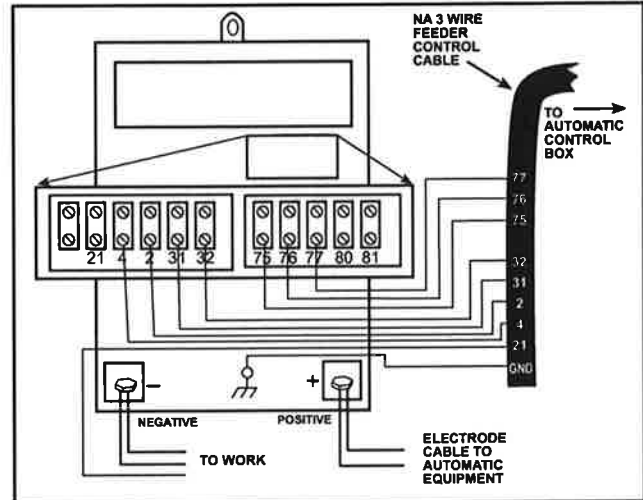

FIGURE C.5 - NA-3 WIRE FEEDER CONNECTION TO THE IDEALARC DC-600
3. Connect the wire feeder control cable leads to the IDEALARC DC-600 terminal strip as shown in Figure C.5.
NOTE: The connection diagram shown in Figure C.5 shows the electrode connected for positive polarity. To change polarity: